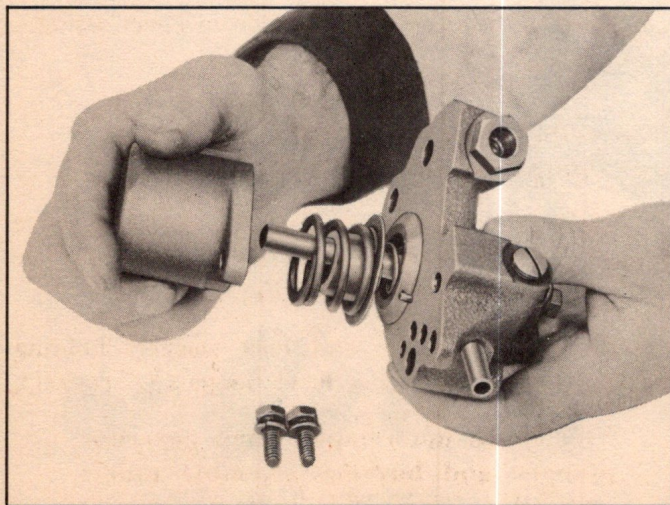

Fig. 163—Removing Front Band Release Cylinder
1. Remove two bolts and lock washers holding front band release cylinder to servo body and remove front band release cylinder ($\frac{7}{16}$ " socket) (Fig. 163).